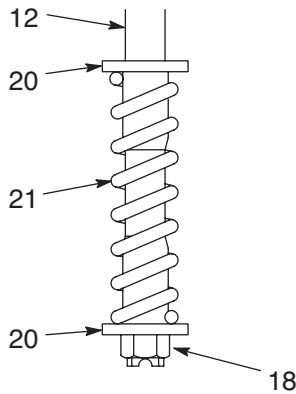

FIG. 9
8. Visually inspect the spring (21) if there is wear or damage, proceed with this step. Remove the nut (18), spring (21), and retainers (20) from the trip rod
(12). Reassemble with a retainer (20) on each end of the new spring (21). You must thread the nut onto the rod until it runs out of thread, so that it bottoms out on the should of the rod. (Fig. 9)